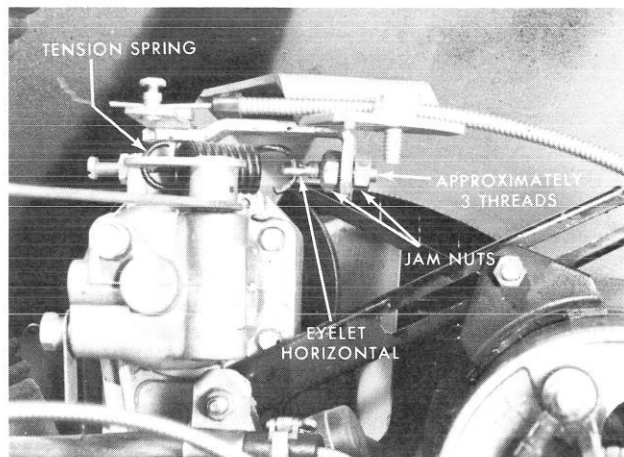

Figure 39
10. If the drop in speed between no-load and full load is too great, loosen the lock nuts and add tension to the spring (Figure 39) by lengthening the spring $1/32$ ". Bring engine back to original speed with throttle lever. Repeat this procedure as required.